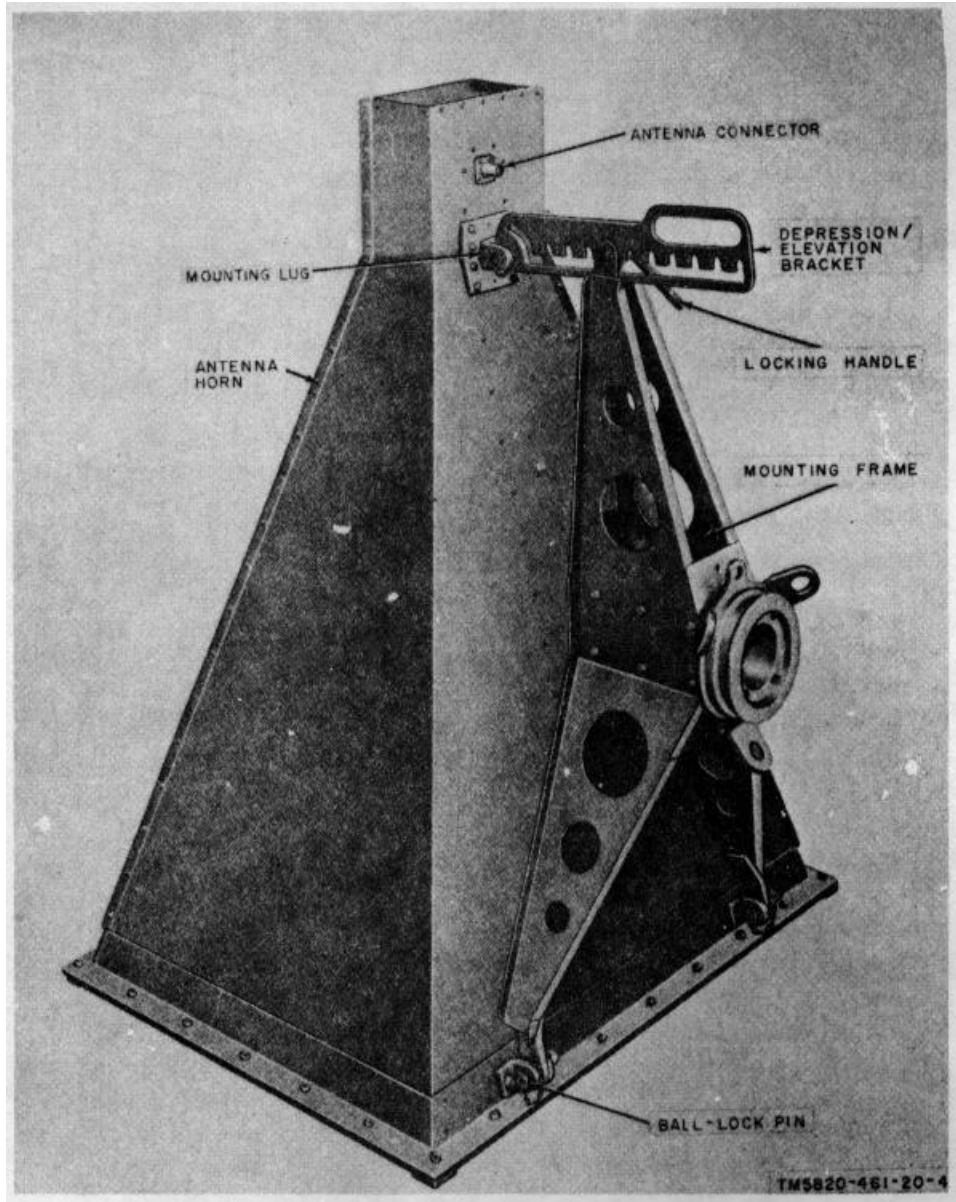

Figure 2-5. Antenna AT-903/G, location of components.
- (1) To detach the mounting frame from the antenna horn, pull the three ball lockpins from their holes (fig. 2-5).
- (2) Set the mounting frame on the antenna horn in the desired polarization. Align the holes in the legs of the mounting frame with the holes in the mounting lugs, and insert the ball lockpins.
b. Elevation and Depression Adjustment (fig. 2-5). Refer to the radio installation instructions, which should state the angle at which the antenna horn should be set. The depression/elevation bracket is slotted at 2' intervals; the zero (0) slot provides for the antenna to be parallel to the ground.
- (1) Loosen the locking handle.
- (2) Grasp the depression/elevation bracket; lift it to disengage the slot. Move the mounting frame to the proper slot for elevation or depression angle. (4) Tighten the locking handle.
- (3) Push the depression/elevation bracket down to engage the selected slot.